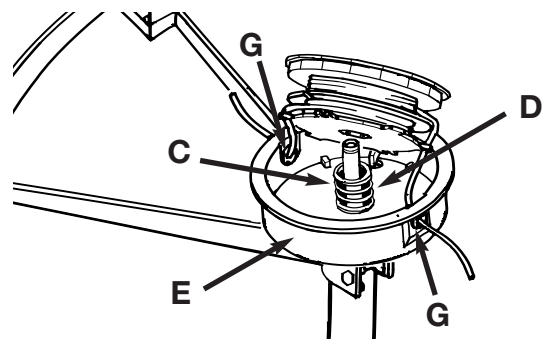

Fig. 12
7. Install the spring (C) over the spindle (D). Insert each end of the line through an eyelet (G) in the housing (E) (Figure 12).
8. Lower the spool into the housing (E) while feeding the line through the eyelets (G). Ensure the spring seats itself into the spool (Figure 12).